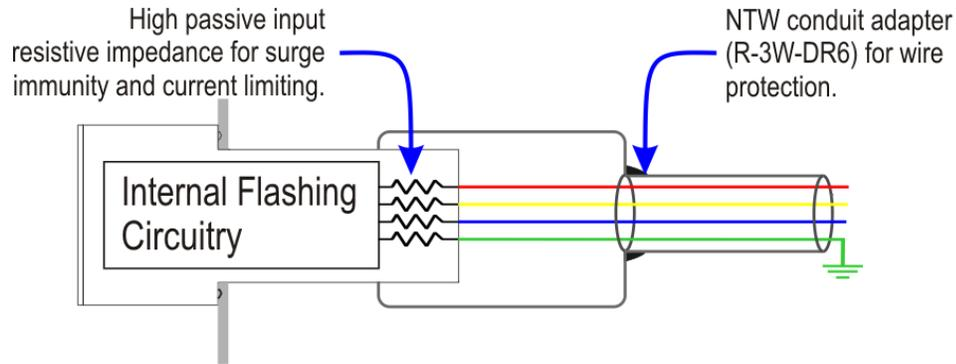

Figure 1
- **High Impedance:** R-3W's are C-UL-US Listed (file E256847, CCN: NKCR-Auxiliary Devices) for use in a UL 508A industrial control panels or UL 845 motor control centers. UL performed a single component evaluation test that insures the device would not experience a catastrophic failure due to a component failure thereby causing a direct short circuit between phases. UL determined that R-3W's are a self-protected device whereby a single component failure draws no more than 3.7mA current at 750VAC applied to the device. The large passive input resistors on each phase of the R-3W provide this current limiting function with a nominal current draw of 300µA between phase at 480VAC (Figure 1).